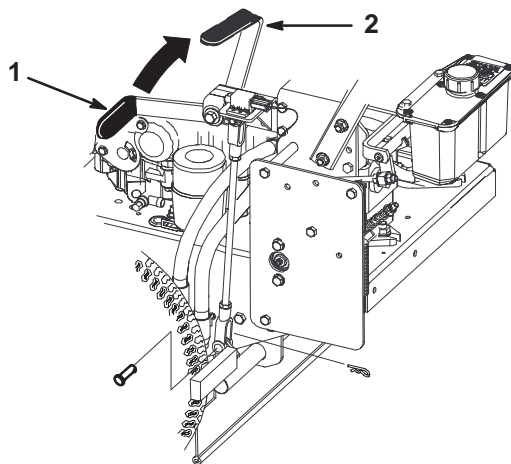

Figure 14
1. Pull the brake handle rearward (Fig. 14).
1. Push the brake handle forward (Fig. 14).